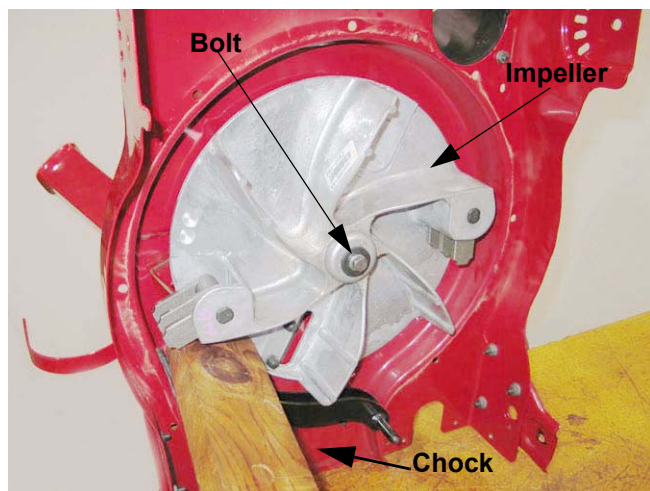

Figure 4.11
- 4.11. Block the impeller with a chock, to keep it from rotating. Using a 9/16" socket, remove the bolt, lock washer, and flat washer securing the impeller to the crankshaft. See Figure 4.11.